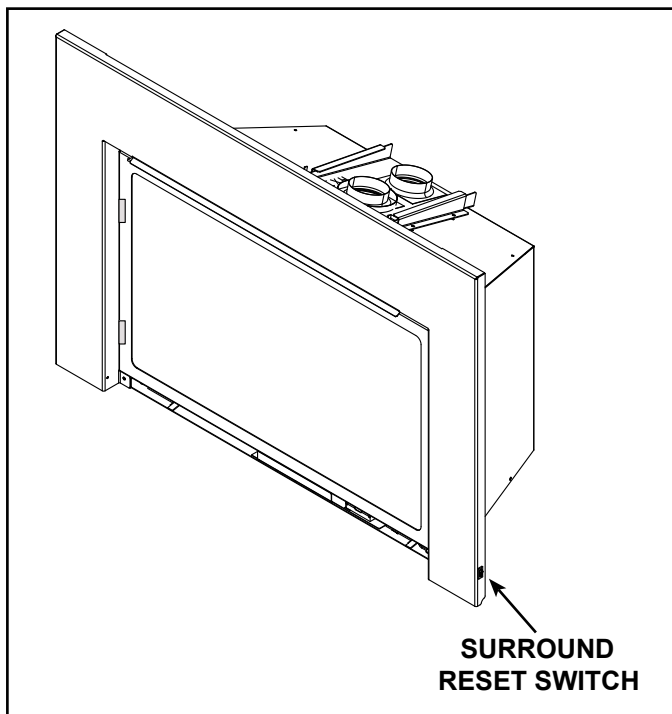

Figure 3.11 Surround Reset Switch
- Toggle the appliance reset switch to the off position . See Figure 3.11 for reset switch location.